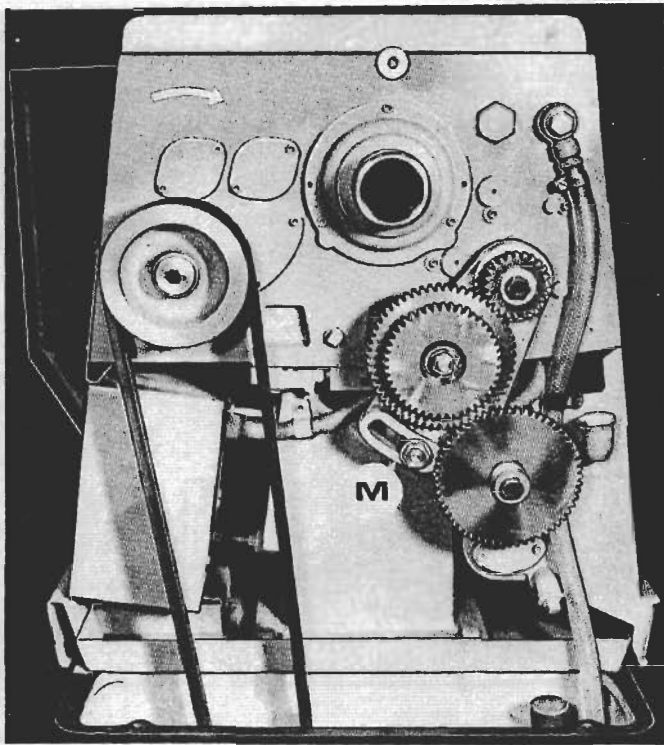

Fig. 19.
Drive from headstock to gearbox is transmitted through a gear train enclosed by the headstock end-guard. Intermediate gears are carried on an adjustable swing-frame (M) shown in Fig. 19. Gears must be thoroughly cleaned before fitting and backlash maintained at .005 in. (.127 mm) for correct meshing. Lubricate gears regularly with thick oil or grease.